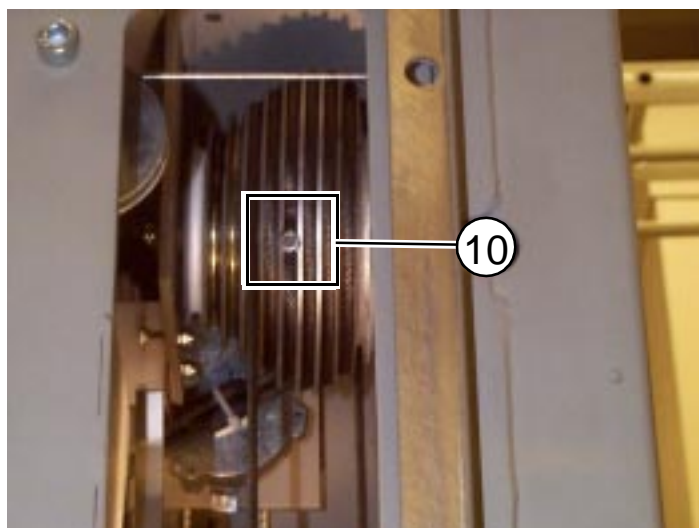

Fig. 7
17. Remove the fastening screw at the step pulley (see Fig. 7, pos.10).
3. Secure the steel rope to the step pulley with the fastening screw (see Fig. 7, pos.10).